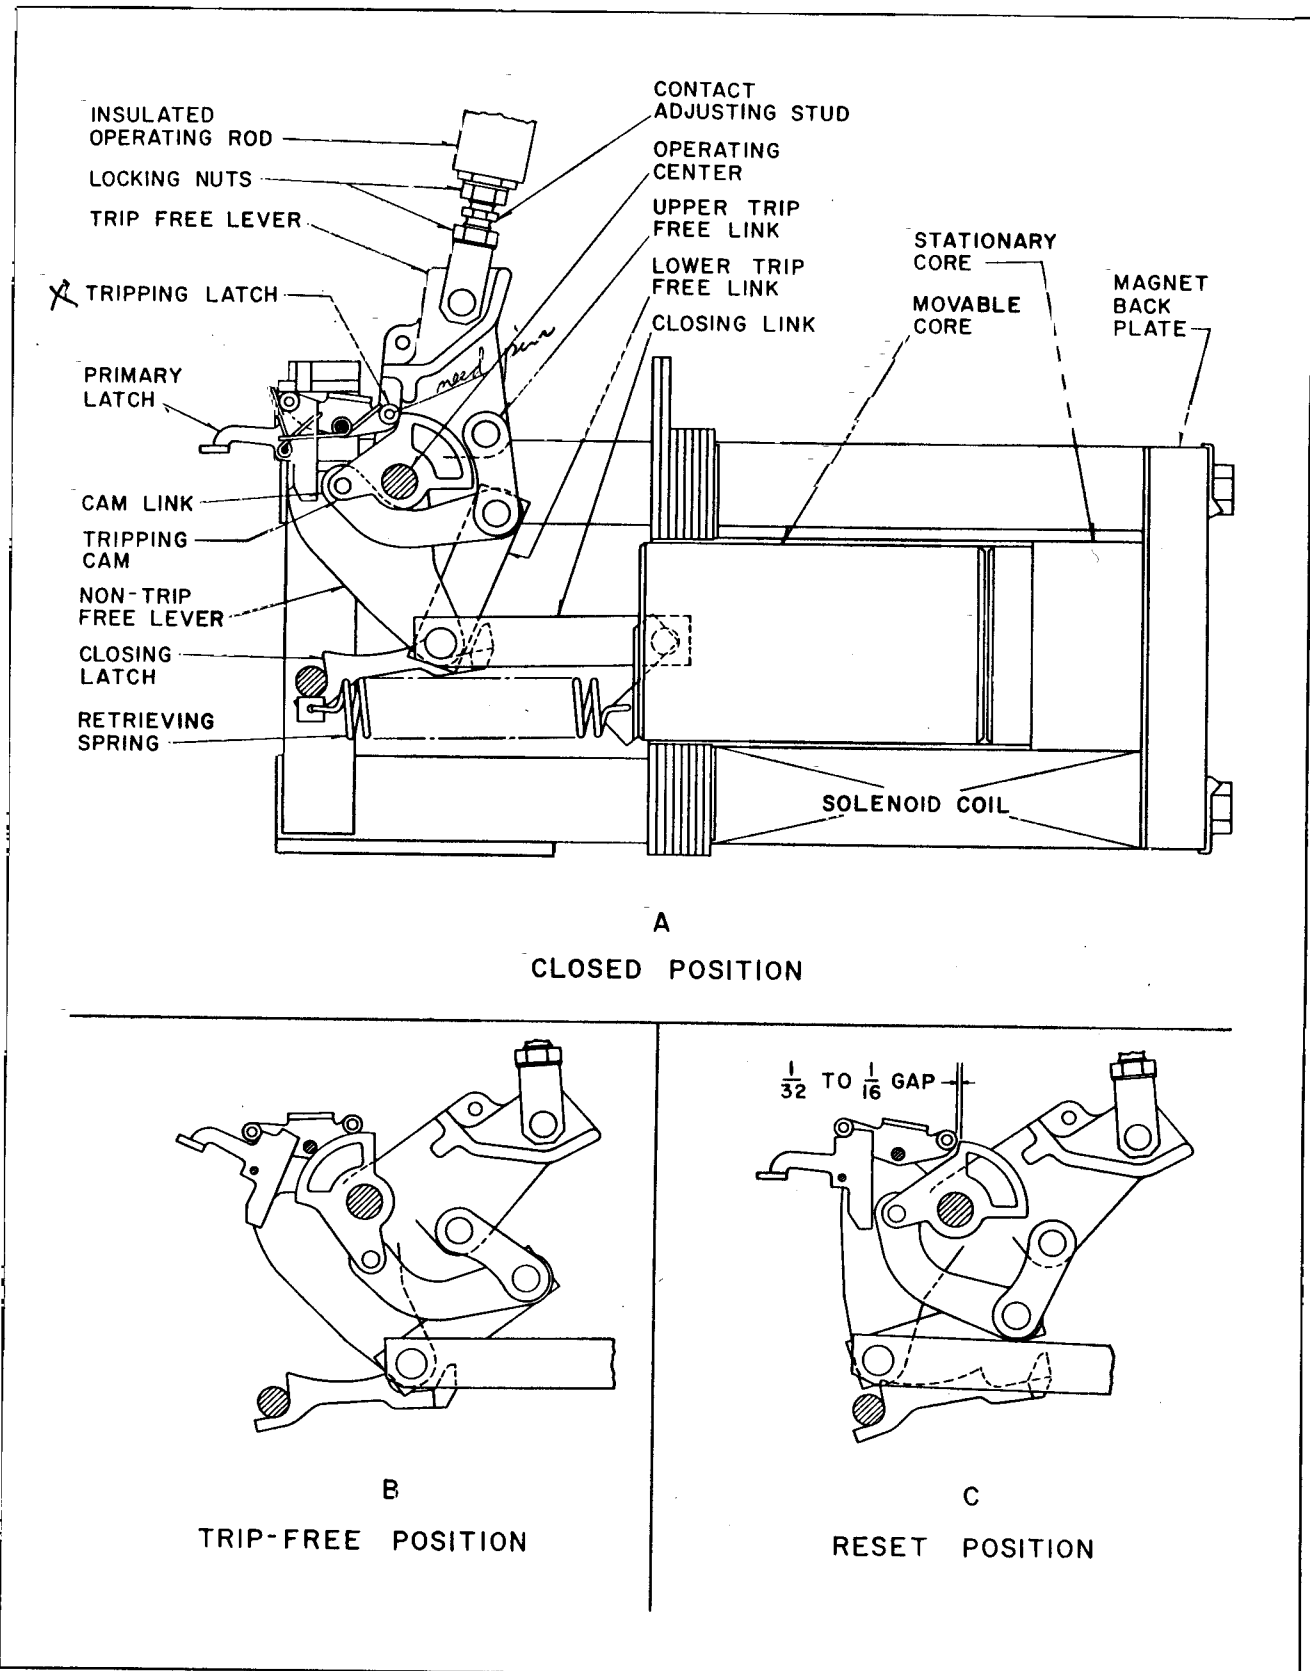

FIG. 4. Solenoid Operating Mechanism
The solenoid operating mechanism with its trip-free linkage is shown in Fig. 4. In this mechanism, the horizontal pull of the solenoid coil is transmitted to the contact operating rods through a system of links which rotate counterclockwise about the operating center. The linkage system consists of
**Latch Check Switch.** The latch check switch is a small, light force, snap action switch which is operated by the primary latch. When a breaker is to be automatically reclosed after being tripped free, it is necessary to arrange the electrical control scheme so that the closing solenoid will not be energized to start the closing motion until the mechanism has completed the linkage motion to get to the reset position. See B and C of Fig. 4. For this purpose, the switch is arranged to be closed when the primary latch is reset, because the primary latch is the last part to reset in the sequence of linkage motions required to reset the mechanism.